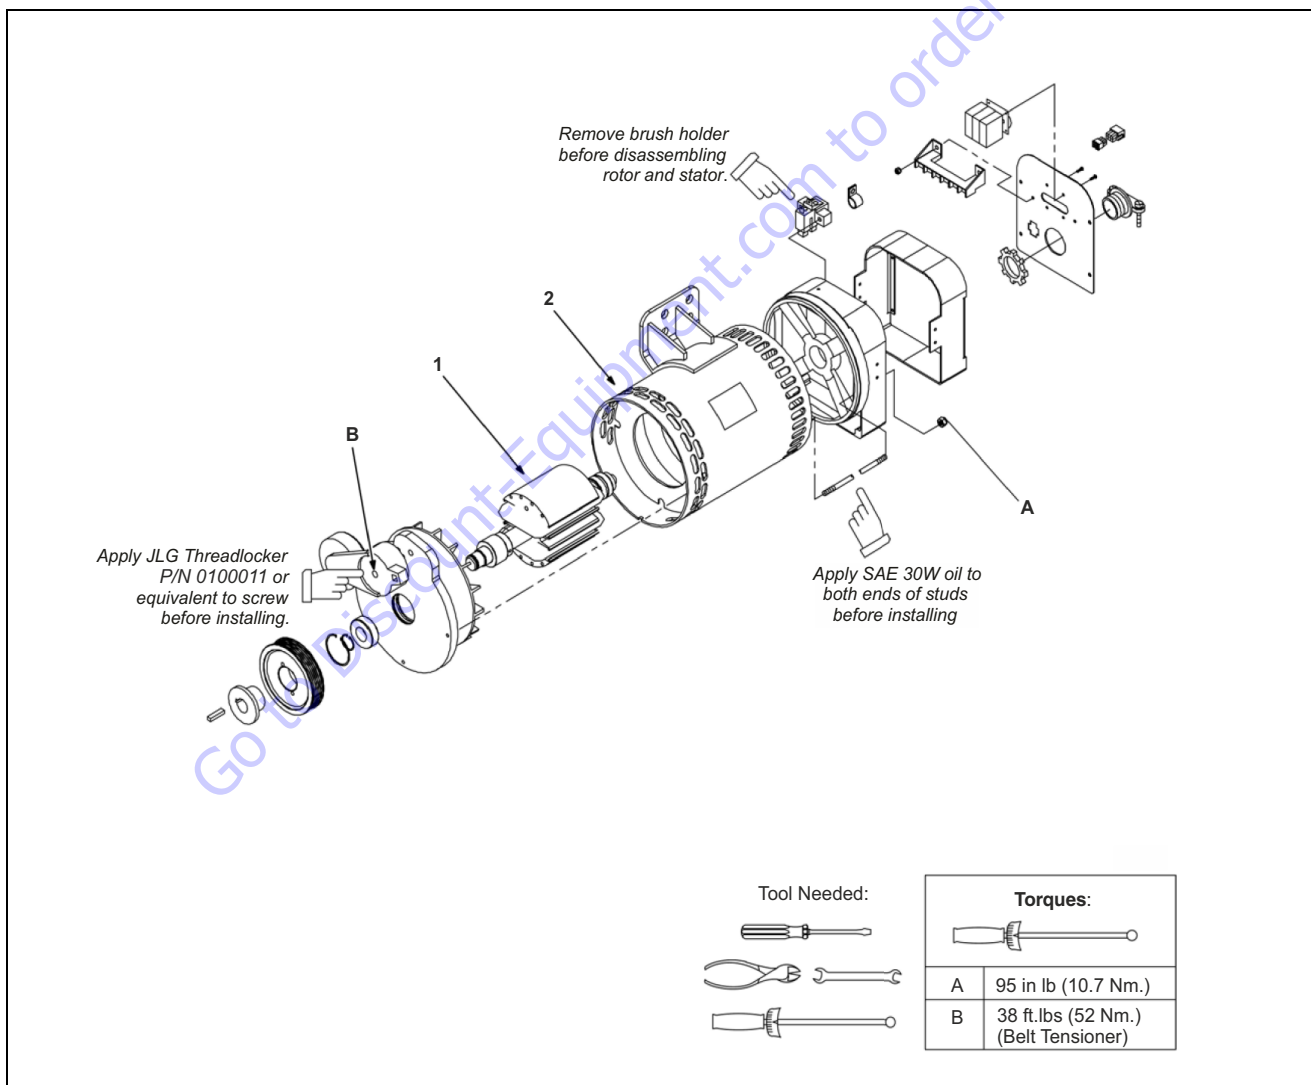

Figure 3-53. Generator Disassembly and Assembly
3. Disassemble generator parts shown in Figure 3-53.